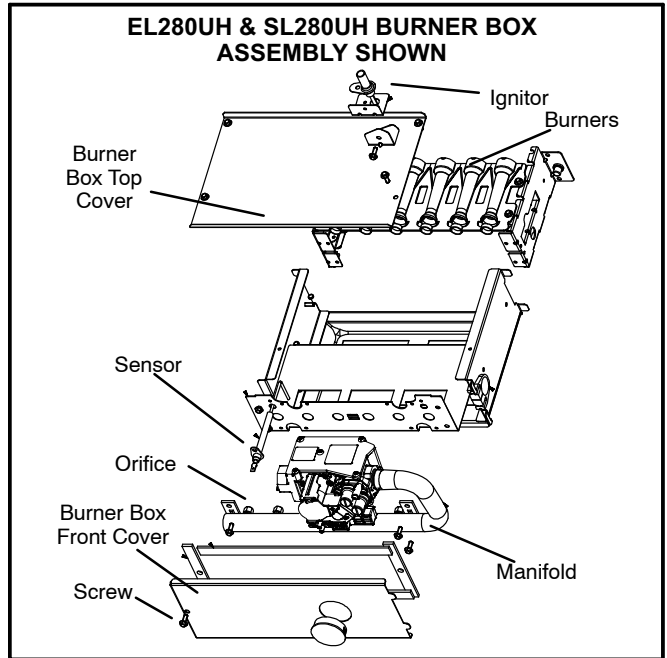

Figure 3
- 5 - Remove the four manifold securing screws. Remove the manifold/gas valve assembly. Replace the main burner orifices with the provided orifices. Torque to approximately 35 in-lbs. See figure 3 or 4.